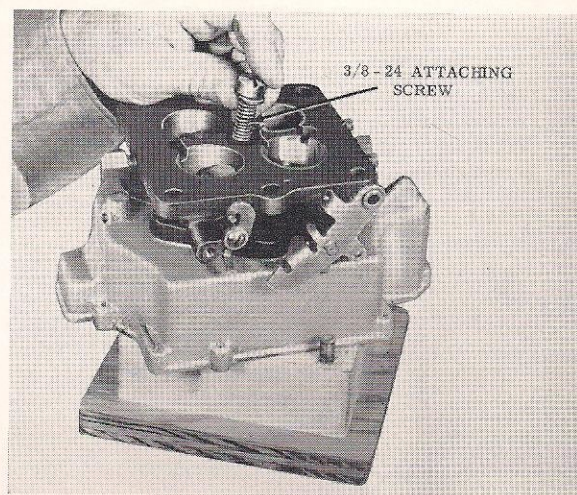

Figure 7-19
12. Place Throttle Body in Position on float bowl. (Figure 7-19.) Attach with three 10-32 attaching screws and lock washers and one large $\frac{3}{8}$ -24 screw and lock washer.